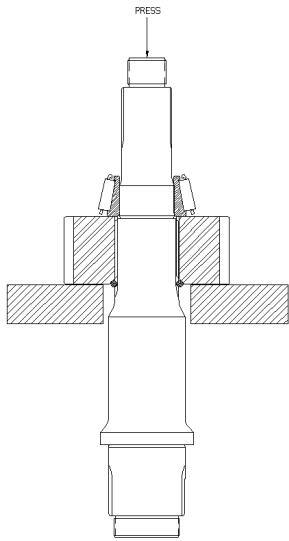

Fig. 30
4. Invert the shaft to remove direct-drive gear and rear support bearing. See Fig. 30.